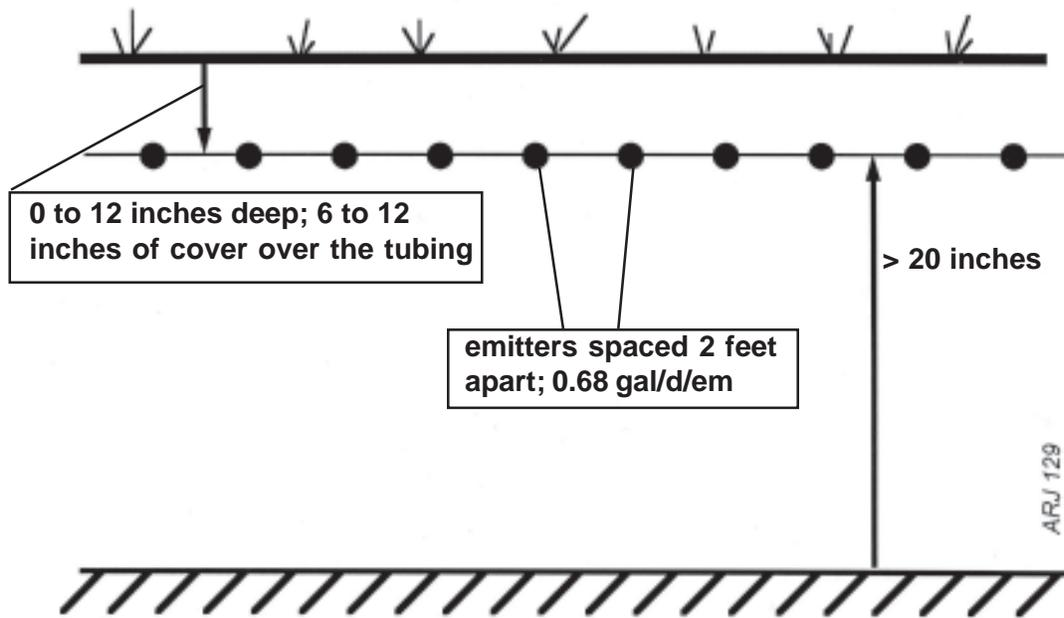
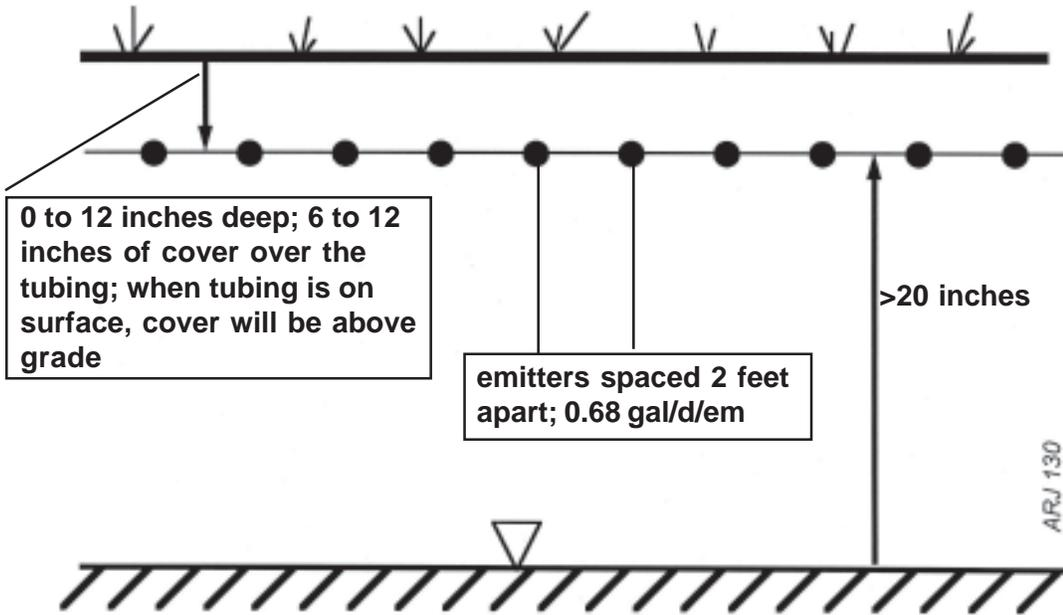

Fig 3. Rock limiting zone  $\geq 26$  inches
Fig 4. Water limiting zone  $\geq 20$  inches.
There are two drip irrigation configurations; (1) for sites with a rock limiting zone  $\geq 26$  inches from the soil surface, see Fig 3, and (2) for sites with a water limiting zone  $\geq 20$  inches from the soil surface, see Fig 4 on the last page. In both cases the drip lateral, with emitters, is placed at or within 6 to 12 inches of the soil surface.